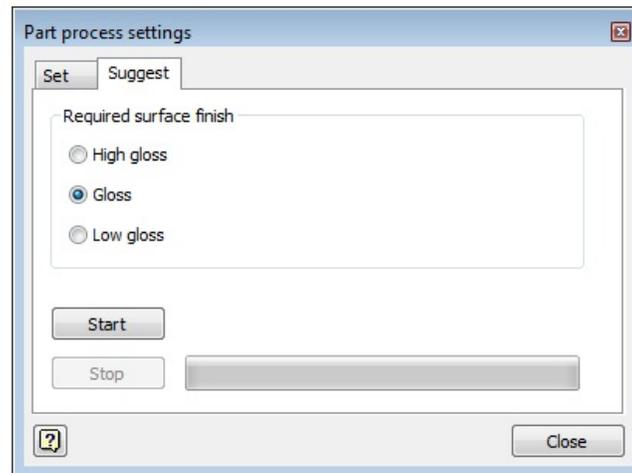

Figure 19-69 The Part process settings dialog box with the Suggest tab
2. Choose the **Suggest** tab from the dialog box; the **Required surface finish** area is displayed, as shown in Figure 19-69.